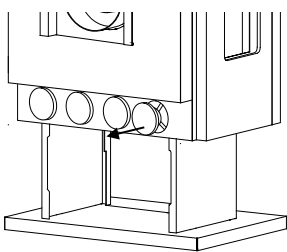

Figure 20. Removing the relief pots on B-Vent Installations.
1. There are four relief pots on the back of the stove body. For B-Vent Installations only, these pots must be removed to provide adequate combustion air. (See Figure 20.)